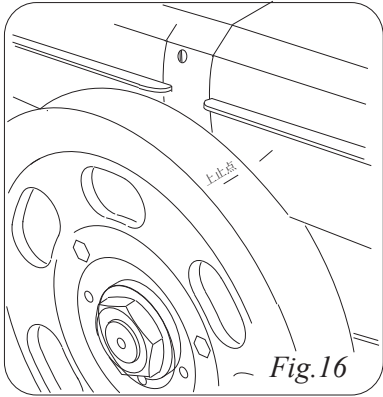

Fig. 16
4.5.2 Open the decompression lever to continue turning the flywheel until its mark. of T. D.C. is directly against the mark on the water tank (Fig. 16).